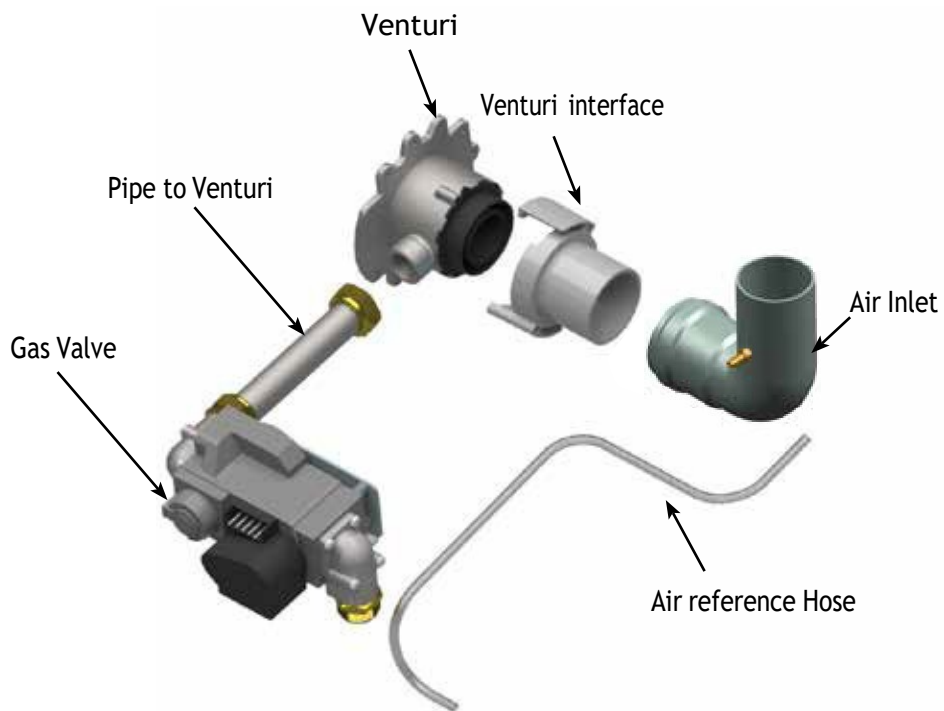

Fig. 16 - Gas Valve / Venturi Assembly - INSTINCT Solo I 10
1. The circulator connections used will depend on the systems piping layout. See Fig. 16 on page 32 through Fig. 11 on page 21 for common system piping applications and associated circulator wiring. Consult the Fig. 10 on page 20 and the INSTINCT CTRLMax Control Supplement for additional options.